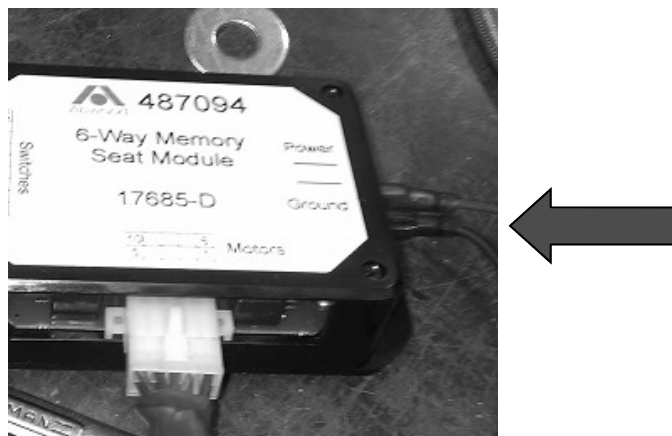

Fig. 6
6. Connect the power (red wire) and ground (black wire) to the memory switch. The plug in connector location is labeled on the top of the Memory Seat Module as shown in the photo below. (See Fig. 6)